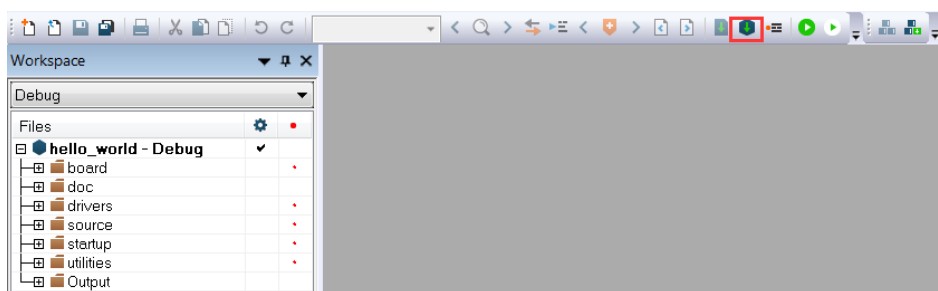

Figure 5. Build the demo application
3. To build the demo application, click **Make**, highlighted in red, as shown in Figure 5.